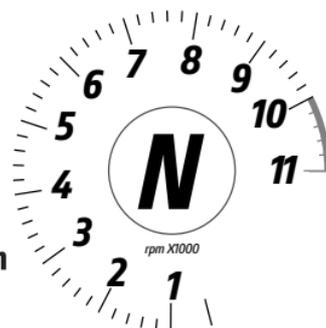

Fig 79
Once the DPL level is set, the instrument panel shows the wait screen for 2 seconds (Fig 78): during this time, if you press the ENTER button (3), the wait phase is interrupted and the instrument panel displays the main screen and sets the DPL to OFF. Then the instrument panel shows the "assisted launch" screen (Fig 79).